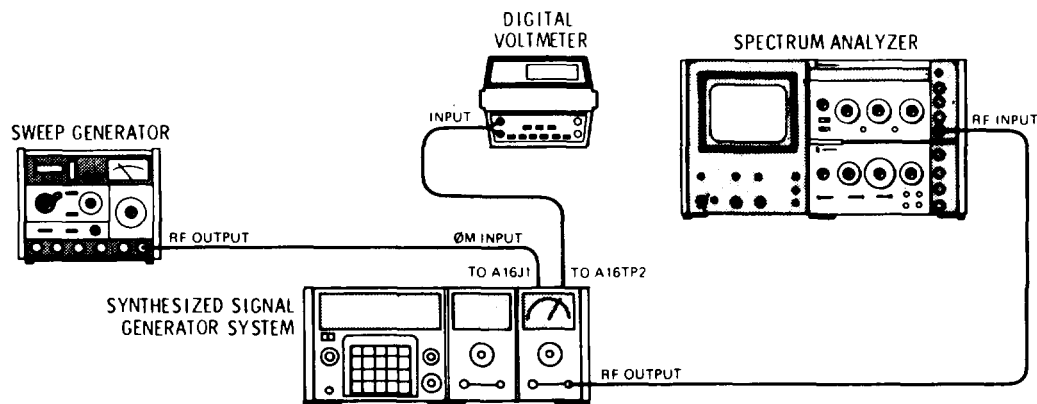

Figure 5-4. Phase Modulator Driver Frequency Response Adjustment Test Setup
4. Connect the equipment as shown in Figure 5-4.